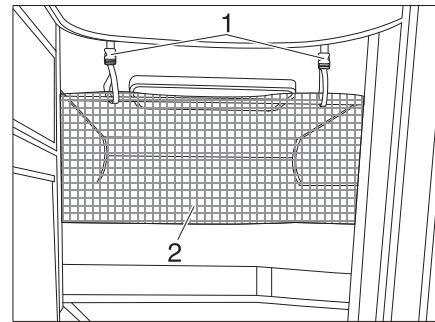

Fig. 164 Safety net
The safety net (Fig. 164, 2) is stored as standard between the mattress and slatted frame. Do not use the safety net until the person is already in bed.
- Fasten the retaining straps (Fig. 164, 1) to the holders on the ceiling.
Safety net The safety net (Fig. 164,2) is stored as standard between the mattress and slatted frame. Do not use the safety net until the person is already in bed.
Setting up: ■ Fasten the retaining straps (Fig. 164,1) to the holders on the ceiling.